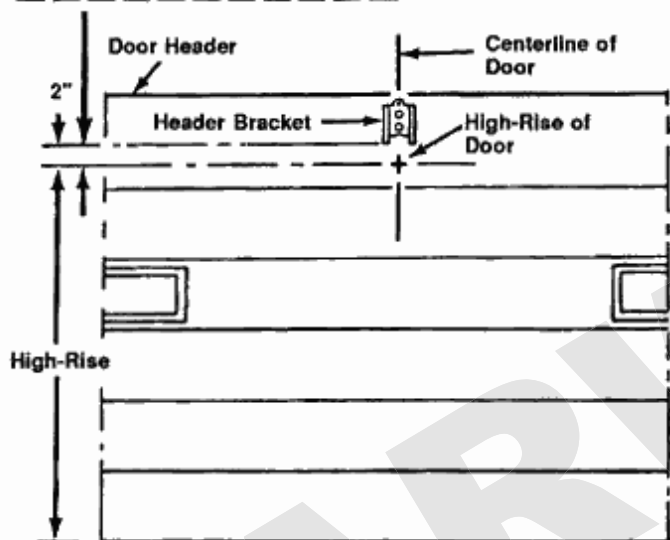

FIG. 10
- A. Locate the centerline of the door. Mark the centerline of the door on the header above the door and the top of the door. See Fig. 10.